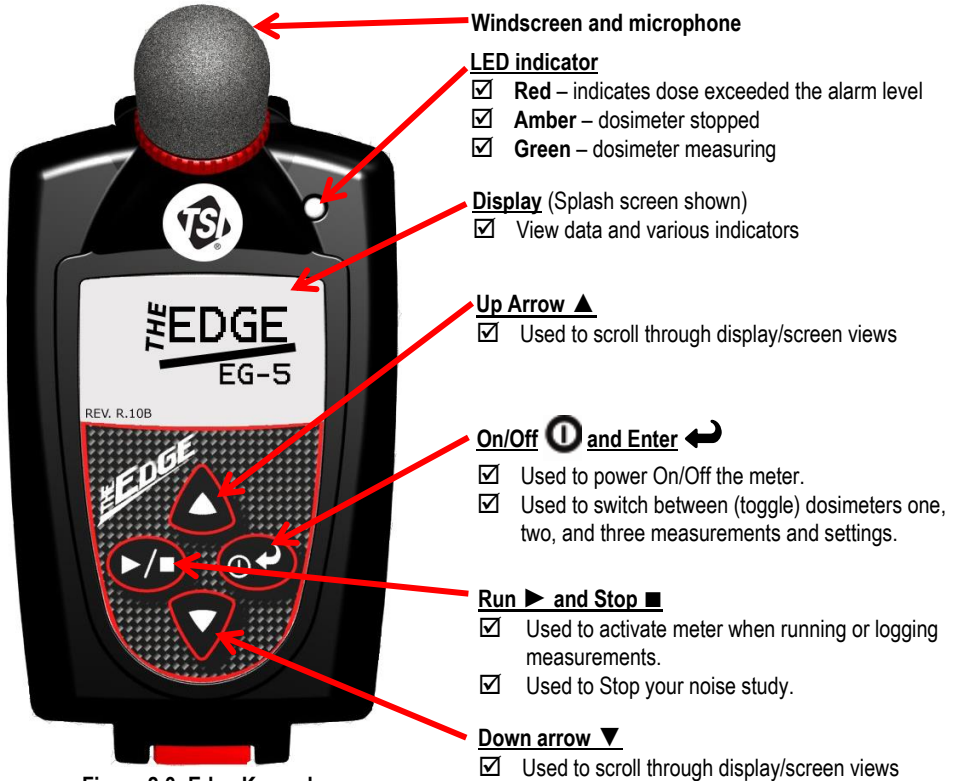

Figure 2-3: Edge Keypad
- The Edge **splash screen** (see Figure 2-3 for an example, page 10) will appear indicating the model (i.e. "eg5") and firmware version. The screen will be in the **measurement view**.